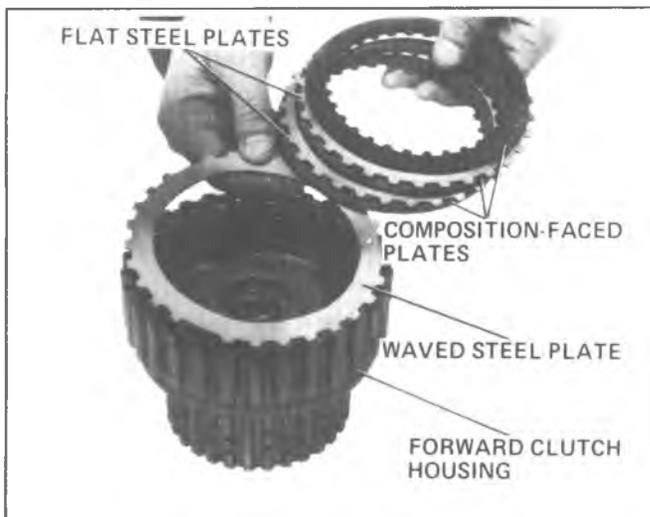

Fig. 7A-119A--Installing Clutch Plates Into Forward Clutch Housing
5. Using J-23327-1, J-25024 and J-25018 adaptor, compress retainer past the snap ring groove, and install snap ring (Fig. 7A-113A).
and alternating composition- faced and flat steel clutch plates. (See Fig. 7A-119A, and Clutch Plate Usage Chart Fig. 7A-82A).